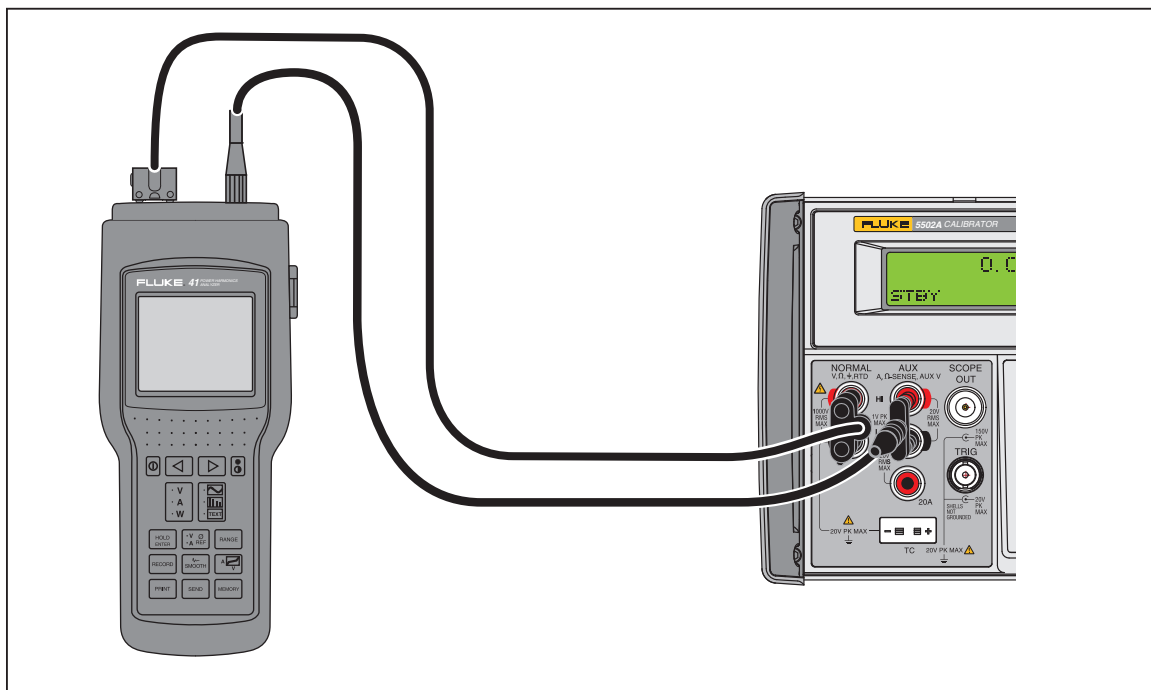

Figure 4-18. Cable Connections to Verify a 40 Series Watts Function
1. Connect the Calibrator to the Model 41 as shown in Figure 4-18.